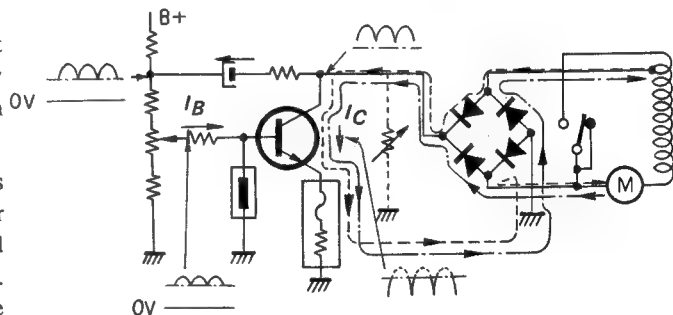

Fig. 10
(Refer to Figs. 10, 11)
- As the base current of the drive transistor is changed, the impedance between the collector and the emitter varies and the voltage supplied to the motor varies to change the motor torque. By utilizing this relationship, the motor torque can be controlled. (Refer to Fig. 10)